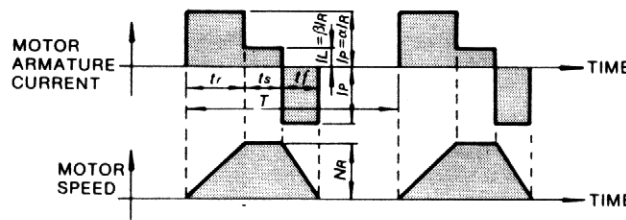

Fig. 4.3 Timing Chart of Motor Armature Current and Speed
- When the motor repeats rated-speed operation and being at standstill (Fig.4.3).